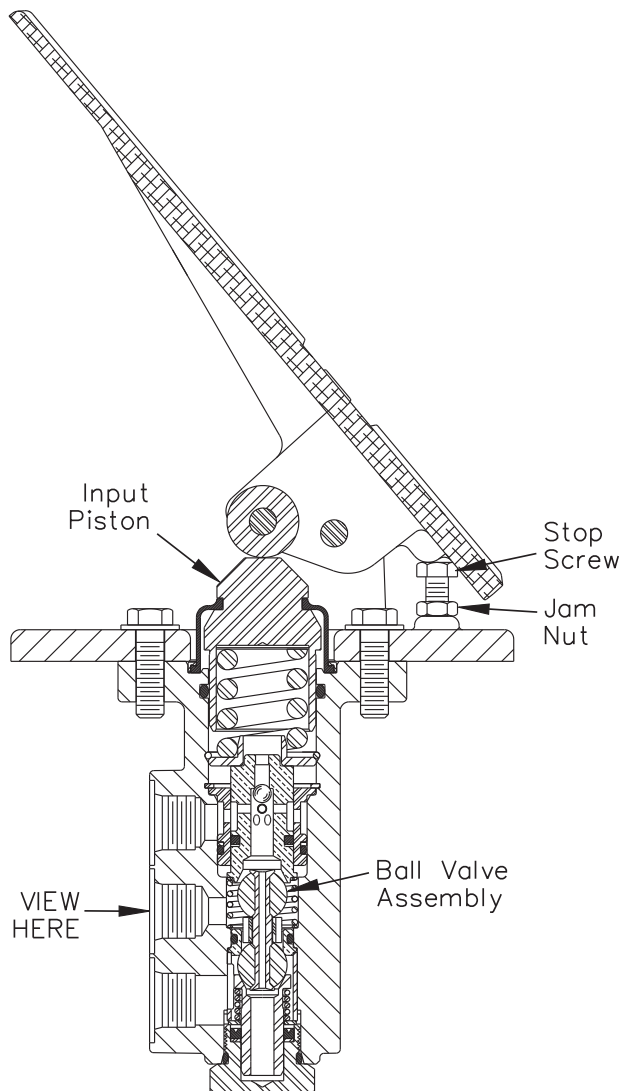

FIGURE 3
If the stop screw or jam nut shown in Figure 3 are loosened or removed, they must be properly reset. Adjust stop screw and nut to allow 1.52 mm (0.060 in) minimum travel of input piston (6) before internal ball valve assembly (23) begins to move. Torque jam nut 24.4-29.8 N·m (18-22 lb·ft). The correct adjustment can be determined by viewing or feeling the ball valve assembly (23) through the port shown in Figure 3.